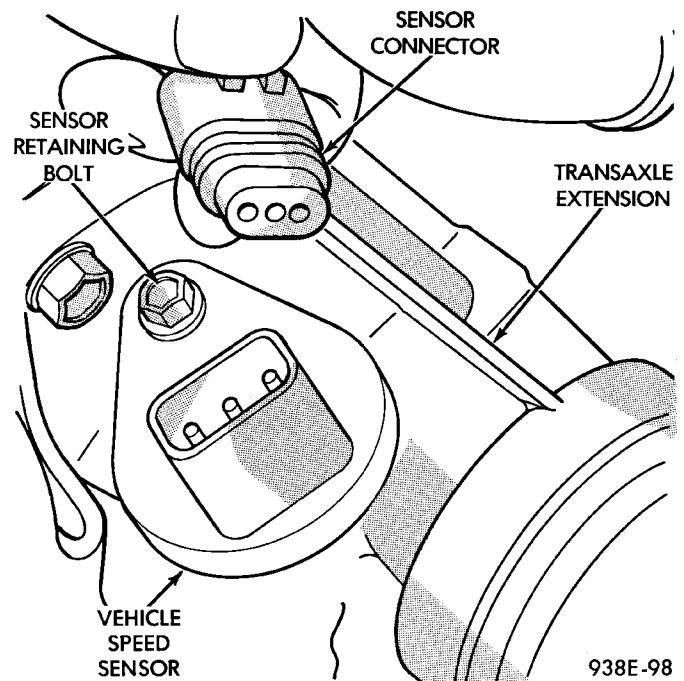
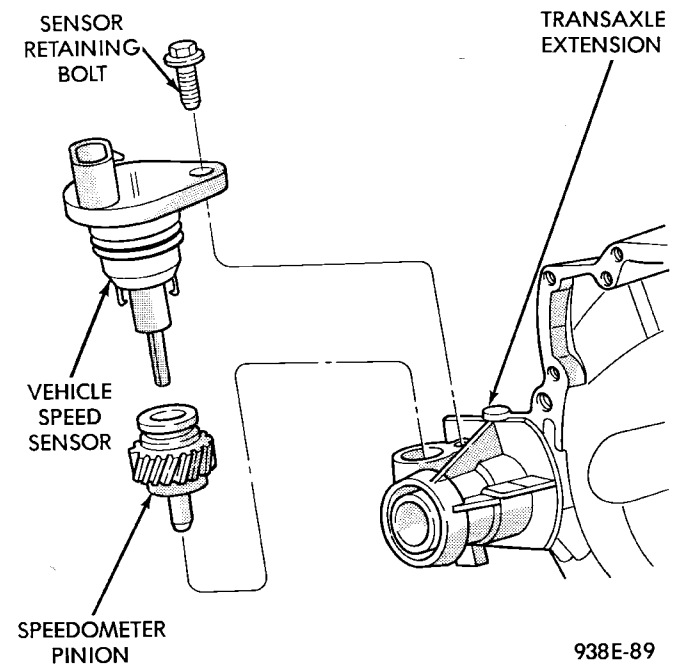

Fig. 31 Vehicle Speed Sensor and Connector
Fig. 32 Vehicle Speed Sensor and Speedometer Pinion
(1) Remove the harness connector from the sensor and make sure the weather seal is on the harness connector.
(2) Remove the sensor retaining bolt.
(3) Pull the sensor and pinion gear assembly out of transaxle. If necessary, carefully pry it loose with a flat blade tool (Fig. 31) and (Fig. 32).